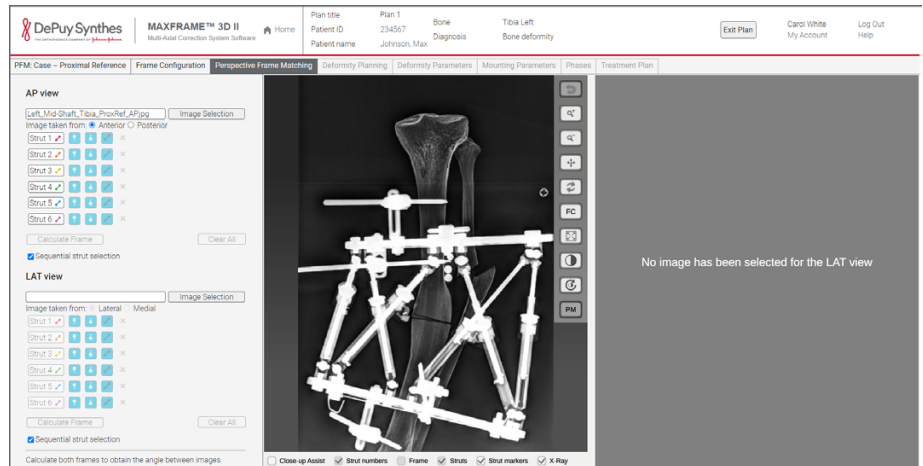

Figure 69 – PFM – Perspective Frame Matching with loaded AP and image file name displayed.
- Click the **Select** button of the desired AP image. The *Select AP Images* dialog closes and the selected AP x-ray image is displayed in the AP view. The image file name is displayed to provide confirmation that your selected image is correct. The strut and hinges selection buttons (cf. figure 69) for the AP view are enabled.